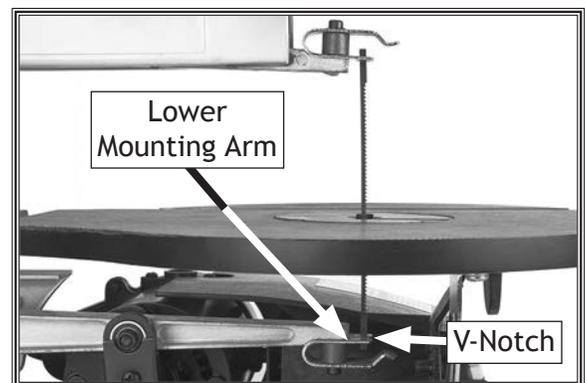

Figure 29. Lower blade mounting arm.
6. Slide saw blade through table hole so teeth face down and forward (see **Figure 29**).
7. Position lower pin-ends underneath V-notch in lower blade holder, as shown in **Figure 29**.
8. While holding adapter, press it down and install other adapter on lower mounting arm (see Figure 29 on Page 25).